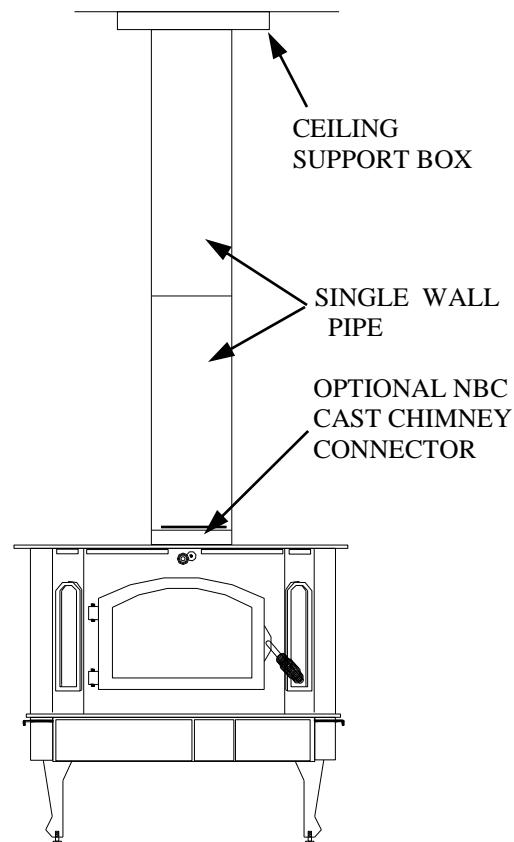

FIGURE 12
3. Connect stove to ceiling support box by using #24 ga. minimum blued or black steel chimney pipe. (DO NOT use galvanized pipe.) Each section should fit into section below or into opening on stove, for drip-free operation. Secure each section together by using at least three (3) sheet metal screws or rivets.
4. You may secure chimney pipe to stove two (2) different ways.
- a. With Optional NBC Cast Chimney Connector, See Figure 12.